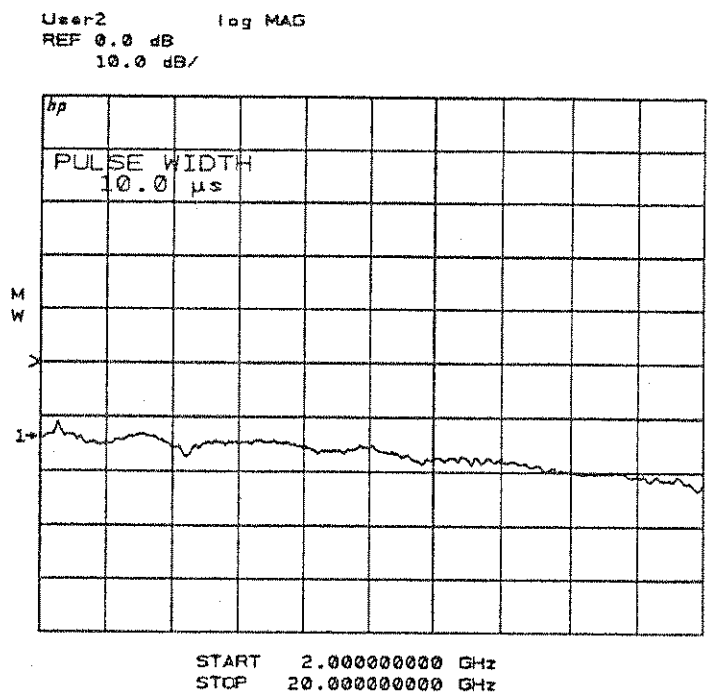
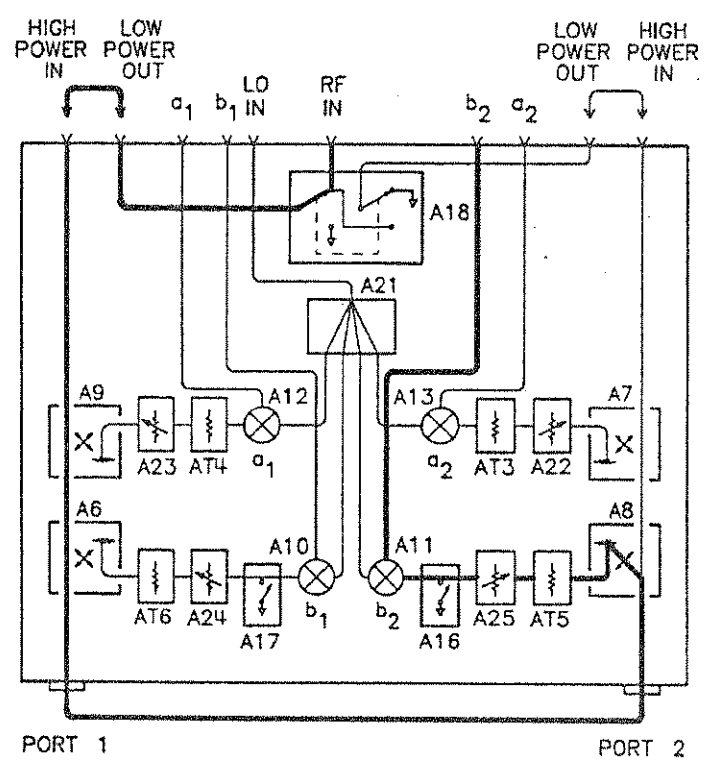

Figure 5-8. Typical b2 Thru Signal Trace
Figure 5-8a. b2 Thru Signal Path
8. Press PARAMETER [MENU] [USER 2 b2] [REDEFINE PARAMETER] [DRIVE] [PORT 1] [PHASE LOCK] [a1] [REDEFINE DONE] and observe the b2 power level trace shown by Figure 5-8. If the power level is not within +5 dB of that shown in the figure, refer to the procedure titled *If Any User Channels Look Bad* at the end of this section. Figure 5-8a identifies the RF signal path and components which affect the b1 thru signal path.